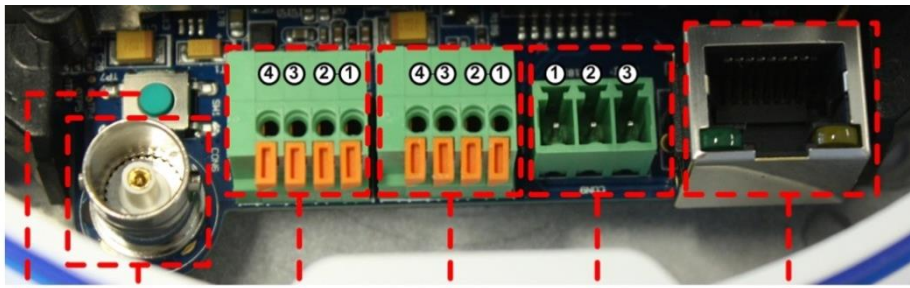

Figure 6 FD820 Printed Circuit Board (PCB) connectors
Connect power and network cables to the camera as indicated in figure 6 and table 3.
1. Connect the audio input and output connectors to the terminal block on the back of the camera (figure 6 and table 2).
- Connect the alarm relay connectors to the terminal block on the back of the camera (figure 6 and table 1). Use the Application, Motion Detection, and Tampering webpages to configure the alarms as desired.